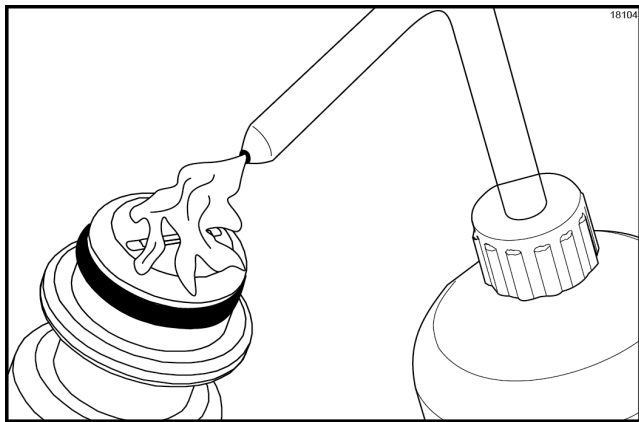

Figure-60
16. Fill the squeeze bottle with sanitizing solution. Hold the bottle over a pail. Squeeze the bottle and thoroughly rinse the slot of each syrup nose fitting. (See Figure-60.)